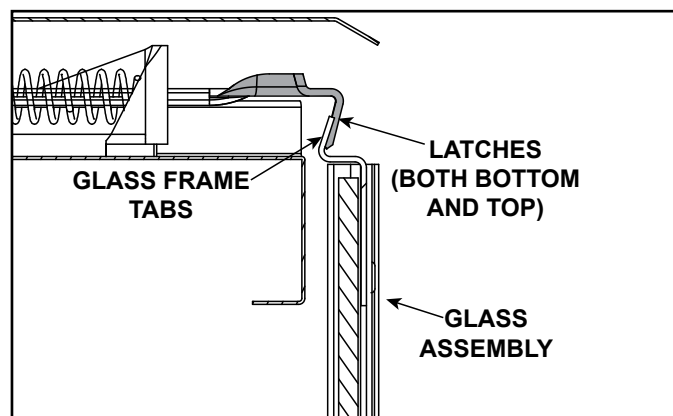

Figure 4.1
- Pull the four glass assembly latches away from the tabs on the glass frame. Remove glass assembly from the appliance. See Figure 4.1.